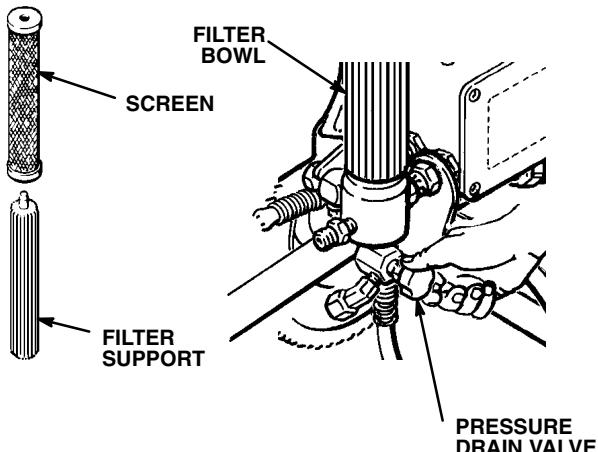

Fig 15-1
2. If the sprayer has been used before, remove the filter bowl and screen; see manual 307-273, supplied. Clean the screen separately and install the bowl without the screen to flush it. *Refer to Fig 15-1.*